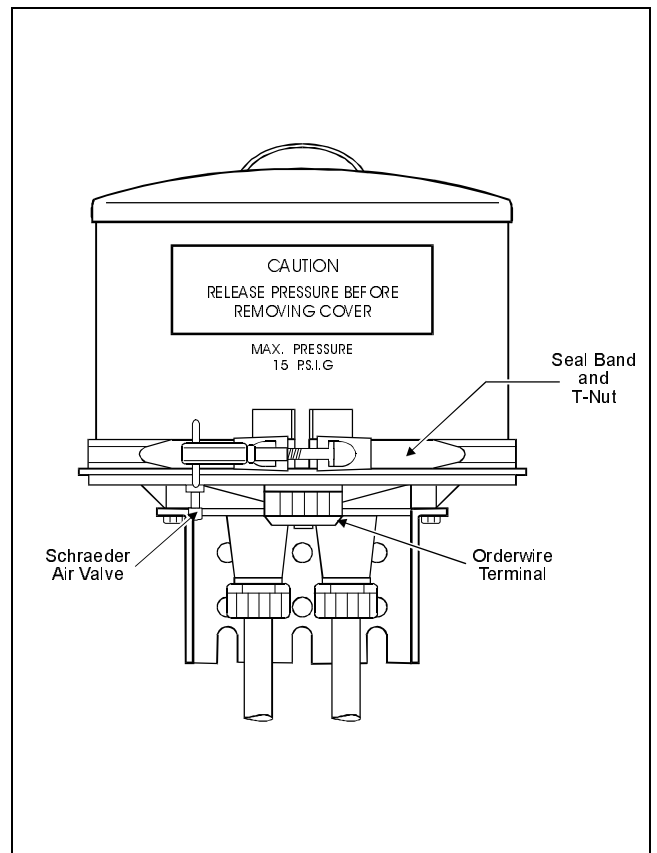

Figure 1. HRE-423, List 1 and 2 Remote Enclosure.
7.01 The enclosure consists of a metal alloy card cage with space for up to three HiGain Remote units or HiGain Doubler plug-in units, a fiberglass composite baseplate, and a stainless steel cover which maintains weather-tight integrity. Figure 1 shows an HRE-423; Figure 2 shows an HRE-423 with the stainless steel cover removed.